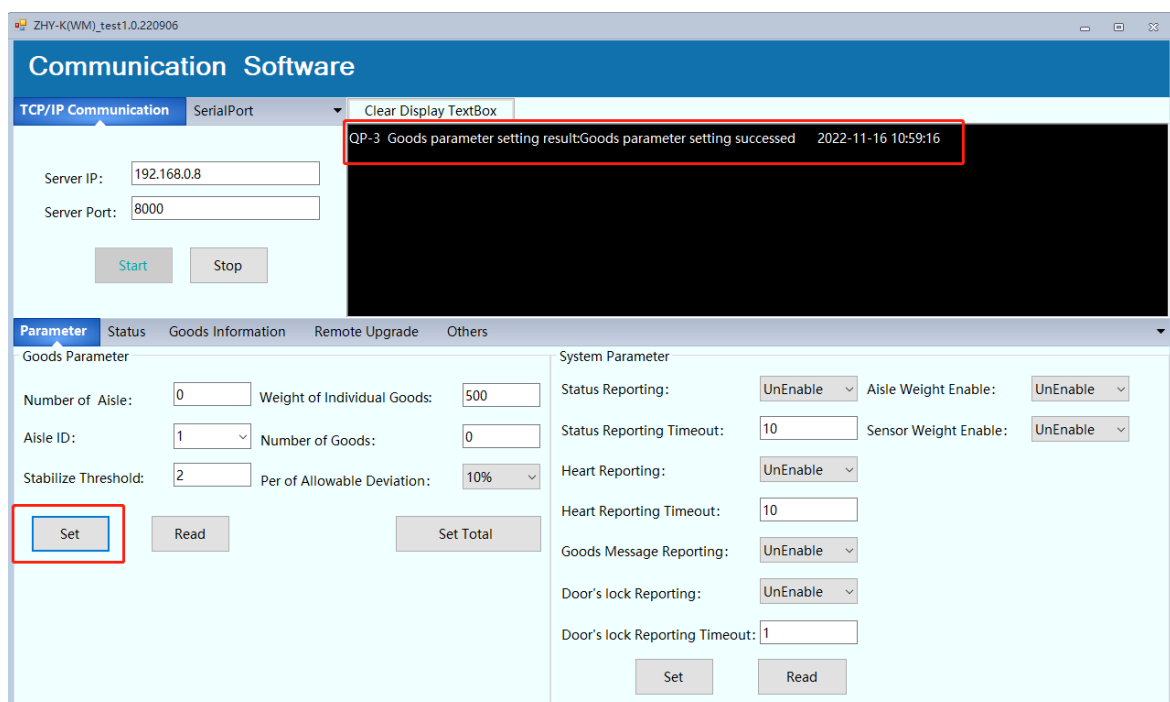

Figure 4.5 Set single aisle UI
B) To set single channel goods parameters, input all parameters value mentioned in the table below and click Set button as shown in Figure 4.5.